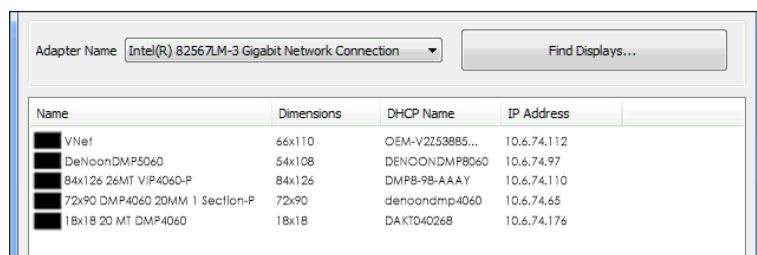

Figure 19: Detected Displays
2. Click **Find Displays** to detect any displays using the selected network adapter. Detected displays are listed in the bottom window of the utility. Refer to **Figure 19**.